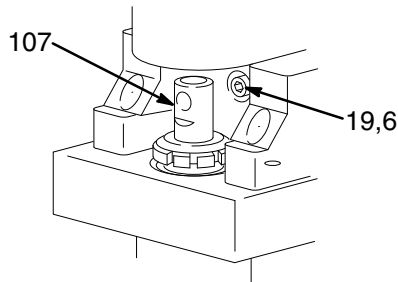
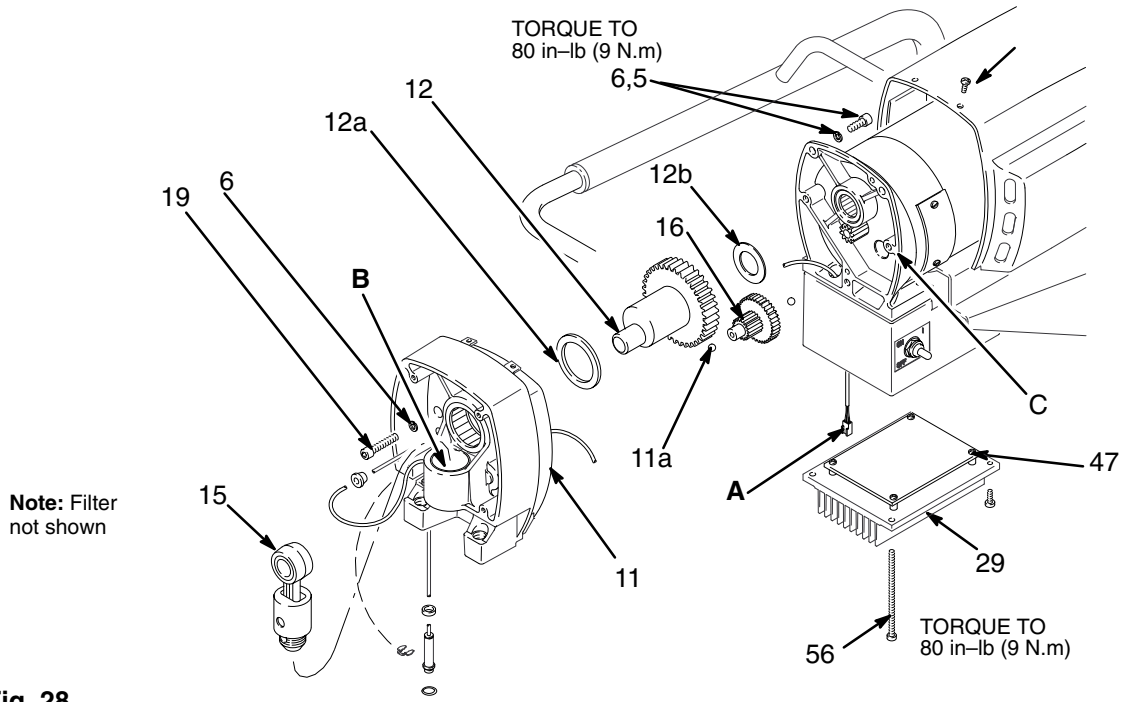

Fig. 27
Fig. 28
1. Remove the screws (56,75) and lower the control card (47). See Fig. 28.
2. Remove the rubber boot (55). See page 36.
4. Turn the displacement pump rod (107) so the pin hole aligns with the bottom drive housing screw (19). See Fig. 27. Remove the three drive housing screws and lockwashers (19,6). Also see Fig. 28.
5. Remove the two motor screws and lockwashers (5,6). See Fig. 28.
6. Tap the lower rear of the drive housing (11) with a plastic mallet to loosen the motor. Pull the drive housing straight off the motor.
**NOTE:** See Fig. 28 and 29 for this procedure.
**NOTE:** The pressure transducer (29) cannot be repaired or adjusted. If it malfunctions, replace it.